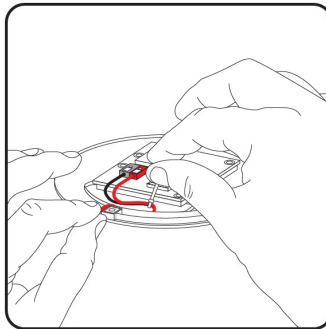

Figure 7: Securing wire with cable tie
- Recommended: Use a cable tie to secure the power connection, to avoid users from pulling the cable (Figure 7).